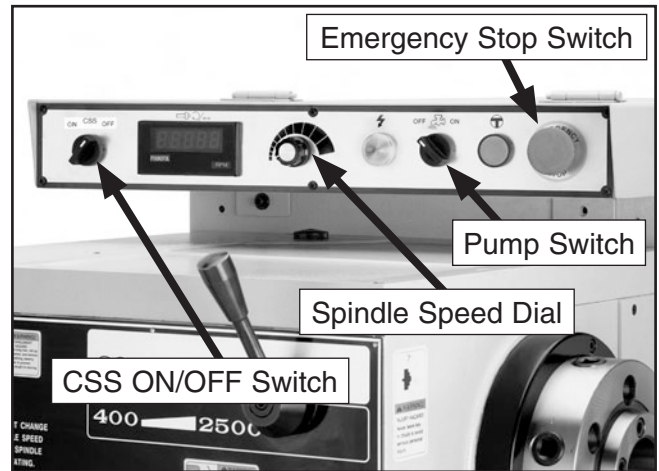
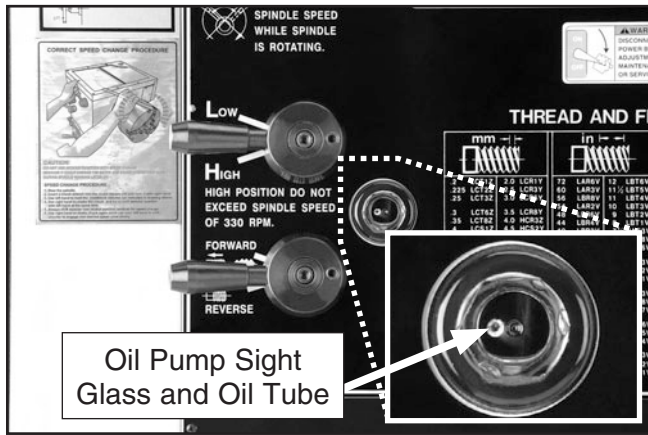

Figure 11. Control panel.
Figure 19. Oil pump sight glass and oil tube.
4. Turn the pump switch (**Figure 11**) to the **OFF** position, fill the cutting fluid reservoir (refer to **Cutting Fluid System** on **Page 58**), and point the fluid nozzle into the chip pan.
5. Turn the CSS ON/OFF switch to **ON**, turn the spindle speed dial (**Figure 11**) to its minimum speed, and make sure the cross slide is backed out to avoid possibility of a high-speed start.
13. Rotate the red EMERGENCY stop switch knob (**Figure 11**) clockwise until it pops out and the pump will turn on. Observe the oil pump tube sight glass (**Figure 19**). When oil flows out of the tube and against the sight glass, you can start the lathe.